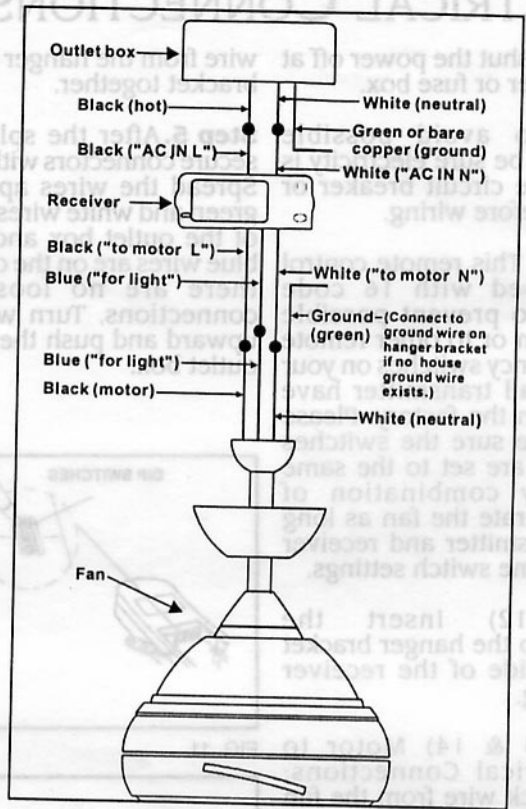

Fig 13
Step 2. (Fig. 13 & 14) Motor to receiver Electrical Connections; Connect the Black wire from the fan to the Black wire marked "To Motor L" from the receiver. Connect the White wire from the fan to the White wire marked "To Motor N" from the receiver. Connect the Blue wire from the fan to the Blue wire marked "For Light" from the receiver.
Step 3. (Fig. 13 & 14) Receiver to house supply wires Electrical Connections; Connect the Black (Hot) wire from the outlet box to the Black wire marked "AC in L" from the receiver. Connect the White (neutral) wire from the outlet box to the white wire marked "AC in N" from the receiver. Secure all wire connections with the plastic wire nuts provided.
Step 4. (Fig. 13 & 14) If your outlet box has a ground wire (green or bare copper) connect the fan ground wire from hanger ball and hanger bracket to it; otherwise connect the fan ground